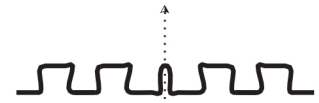

FIG. 2
- **3-piece** oil ring expander points should always be installed up to prevent impingement with oil ring groove drain features used on some pistons. The expander ends must butt and cannot overlap. \*FIG 2